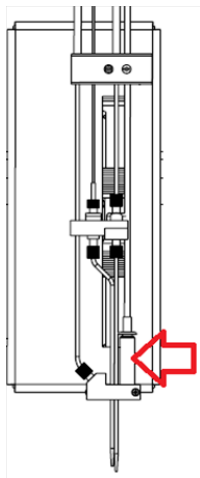

Figure 17: *AccuNORM* level sensor connected to the lower guide
- Screw the cable connector to the level sensor and place the assembly in the hole beside the probe (Figure 17).